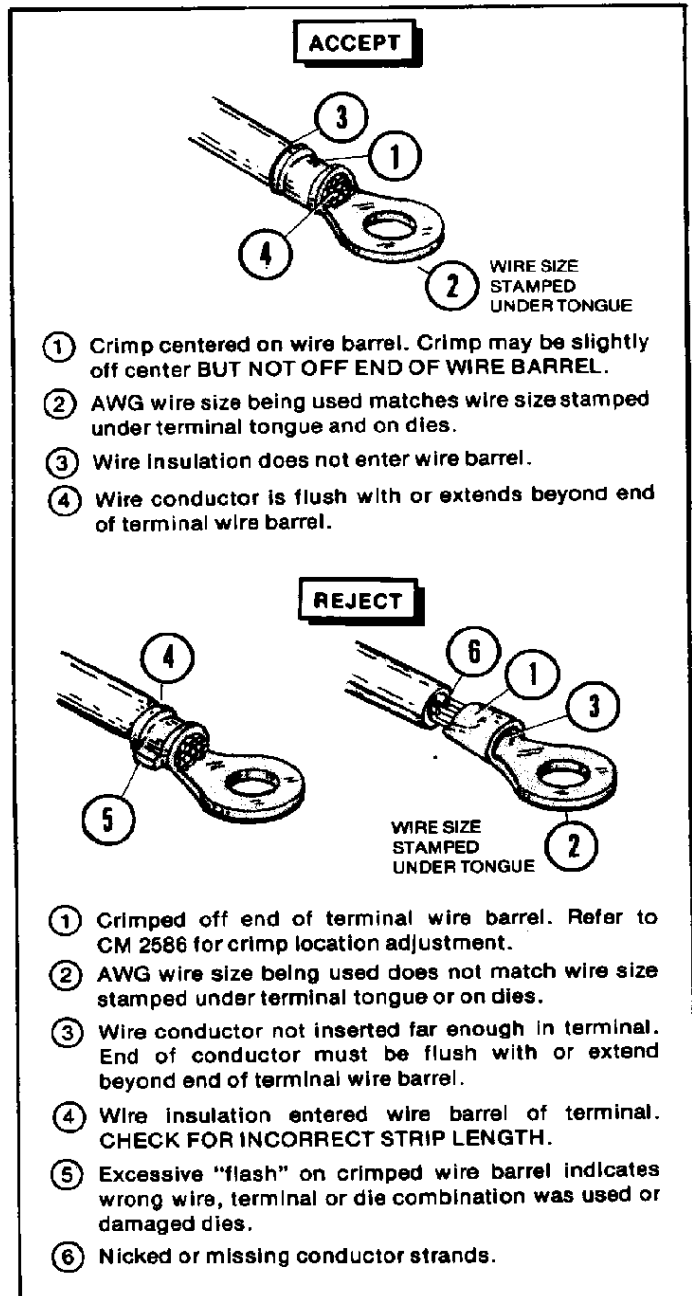

Figure 4
- (g) Refer to Section 3 and Figure 4 for "Crimp Inspection" procedure.
Inspect crimped terminals by checking the features described in Figure 4.